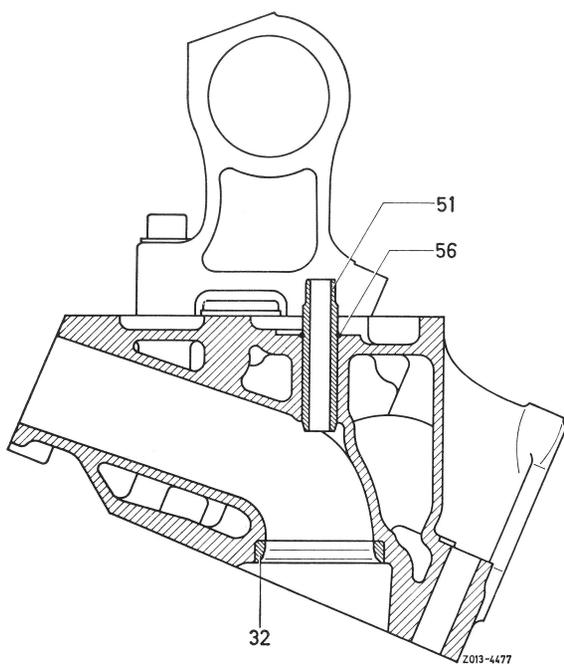

Fig. 1
- 7 Install valve guide with installation mandrel, with the snap ring (56) seated on cylinder head (Fig. 1).